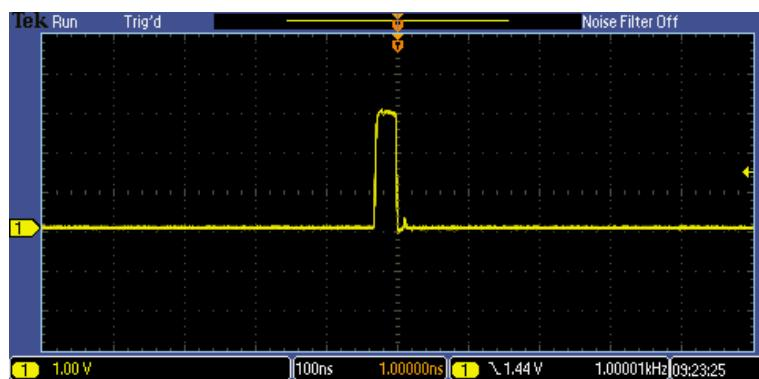

Fig. 10.21: A5202/DT5202 internal periodic signal at the oscilloscope.
9. Press the Apply button. A LVTTL signal having the same frequency of the A5202/DT5202 internal periodic signal should be visualized at the oscilloscope (see Fig. 10.21).